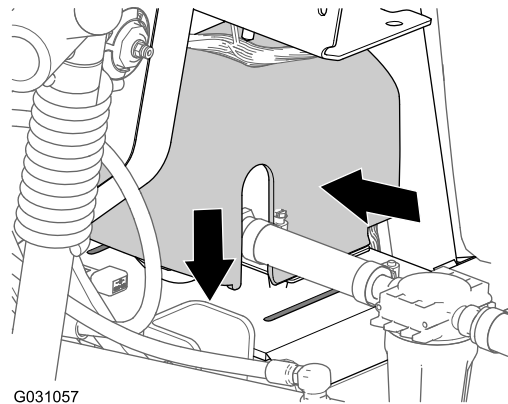

Figure 148
2. Align the rinse-pump cover over the saddle plate for the rinse pump (Figure 148).
3. Press together the sides of the rinse-pump cover and align the tabs of the cover with the saddle plate (Figure 148).
4. Insert the tabs into the slots and release the sides of the cover (Figure 148).